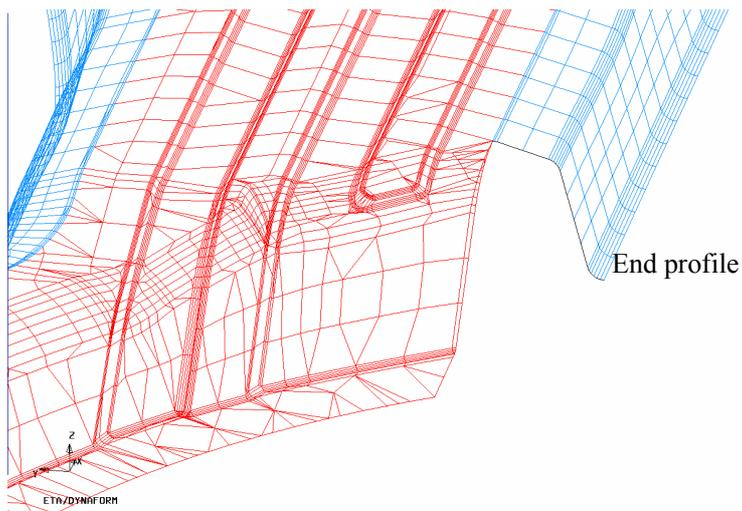

Figure 6.3.18 Select end profile on addendum
2. Click the **SELECT PROFILE** button to select a profile on the addendum boundary. The selected profile will be highlighted as shown in Figure 6.3.18.